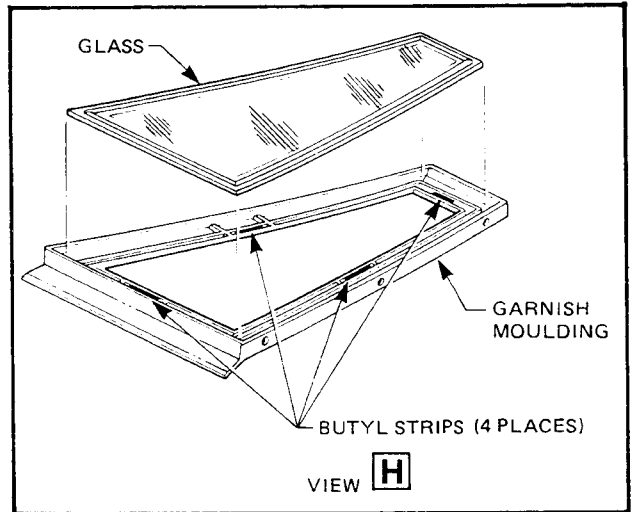

Figure 1A-22
5. Locate blade of Tool No. J24402, glass sealant remover, between inside of glass and urethane as illustrated in Fig. 1A-23, then cut through urethane, around complete periphery of glass.